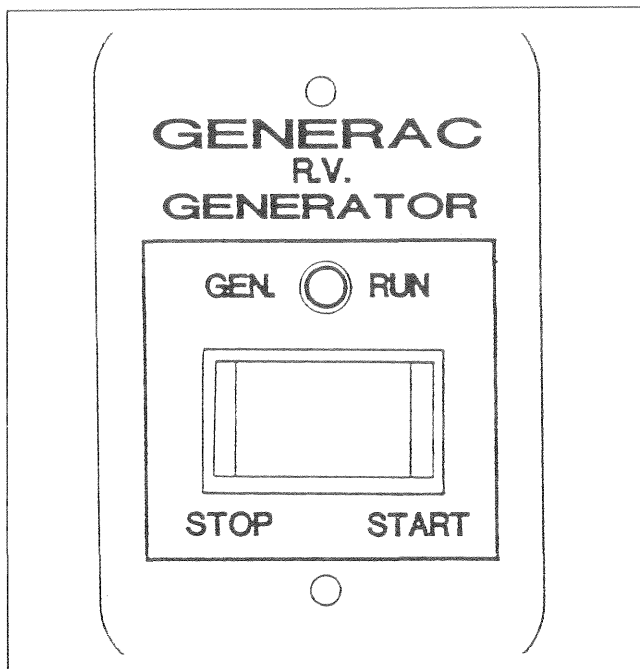

Figure 33 — Model 9042 Remote Panel
**Model 9042:** This remote panel (Figure 33) mounts a rocker type start/stop switch and a “Generator Run” advisory lamp. The lamp will turn on to indicate the engine is running.